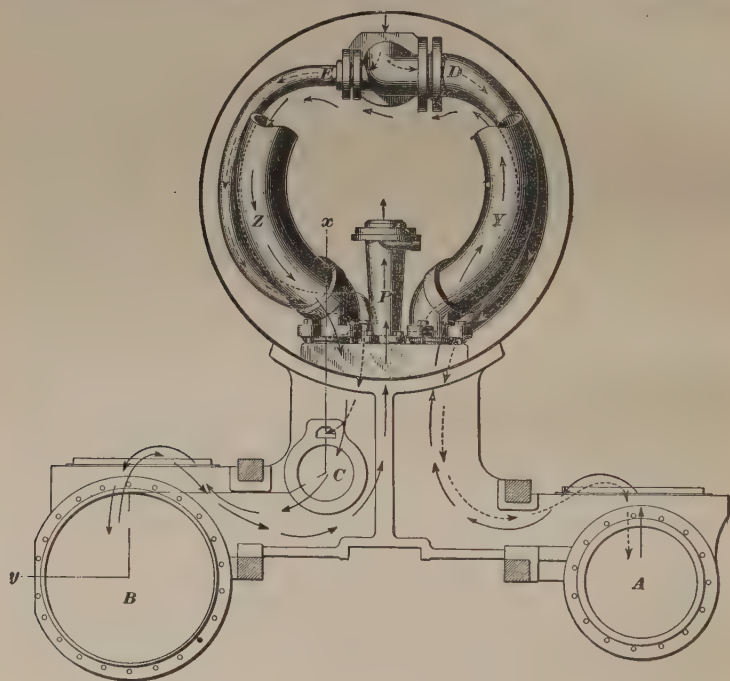

FIG. 6
13. General Arrangement.—Fig. 6 is a front view of the latest type of Richmond compound engine, showing the relative positions of the high-pressure cylinder *A*, low-pressure cylinder *B*, and intercepting-valve chamber *C*, together with the arrangement of the steam pipes *D*, *E* and the
14. Arrangement of Intercepting Valve, Etc.—A perspective view of the Richmond compound engine is given in Fig. 8, in which a part of the low-pressure cylinder and the left half of the saddle have been broken away (on the line xy , Fig. 6), in order to show the relative positions of the different valves and passages; also, the low-pressure steam chest has been removed. In the figure, M is the intercepting valve, by means of which the exhaust steam from the high-pressure cylinder is discharged either into the low-pressure cylinder when the engine is working compound, or directly to the exhaust pipe when it is working simple. The valve N is called the *emergency valve*, since, by its use, the engineer can change the engine from compound to simple at will. This is accomplished, as will be explained further on, by causing the valve to open a special passageway c between chamber I and the regular exhaust passage F .